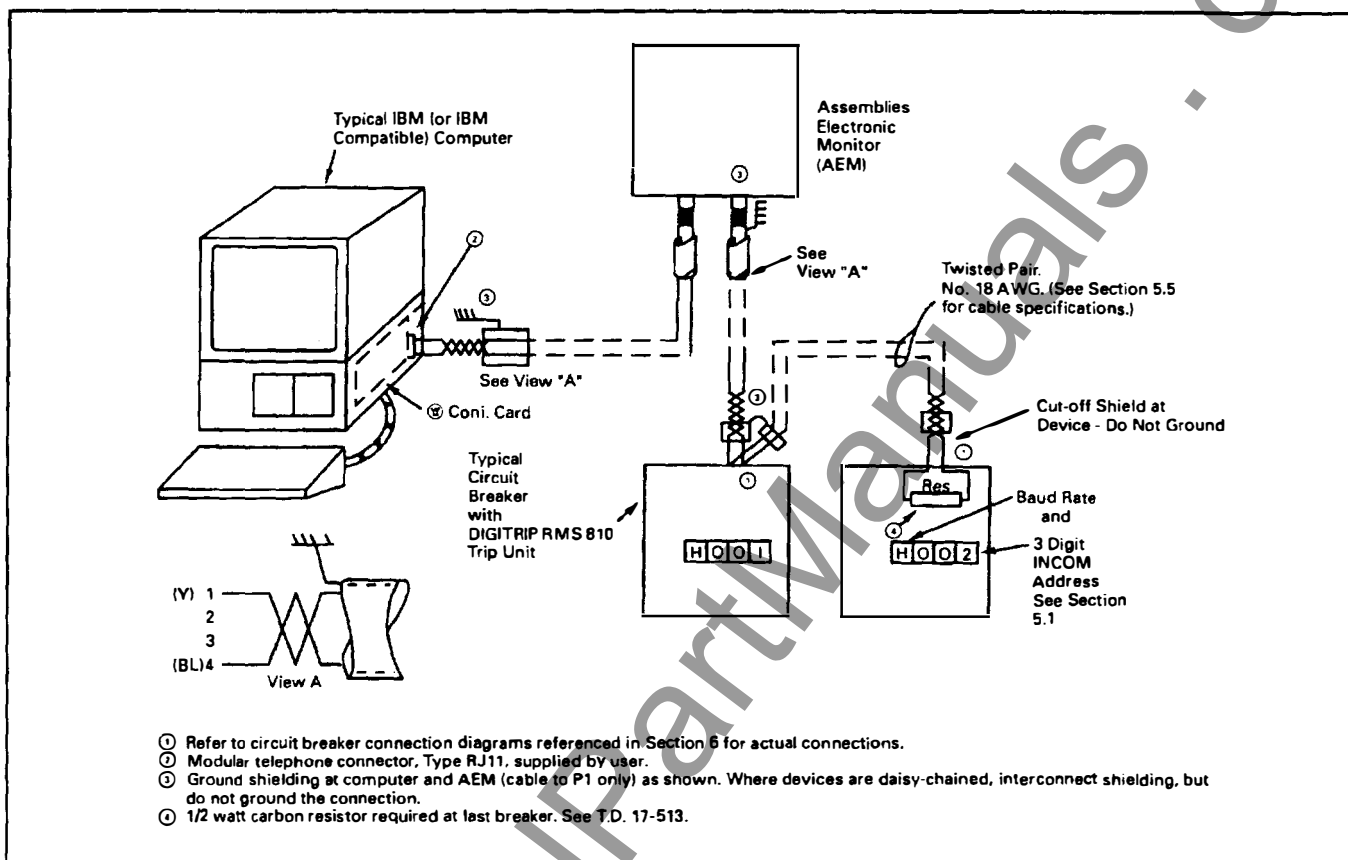

Fig. 11.3 INCOM Network with Remote Master Computer and AEM
- Both an AEM (for local monitoring) and a PC for remote monitoring and control. (See Fig. 11.3 and references in Section 6).
When desired, Digitrip RMS 810 Trip Units can communicate with both an Assemblies Electronic Monitor (AEM) and a remote master computer (IBM PC compatible with Cutler-Hammer Inc. CONI card as noted in Sec. 5.2). The connections in the network are then made by twisted pairs of wires as shown in Fig. 11.3.